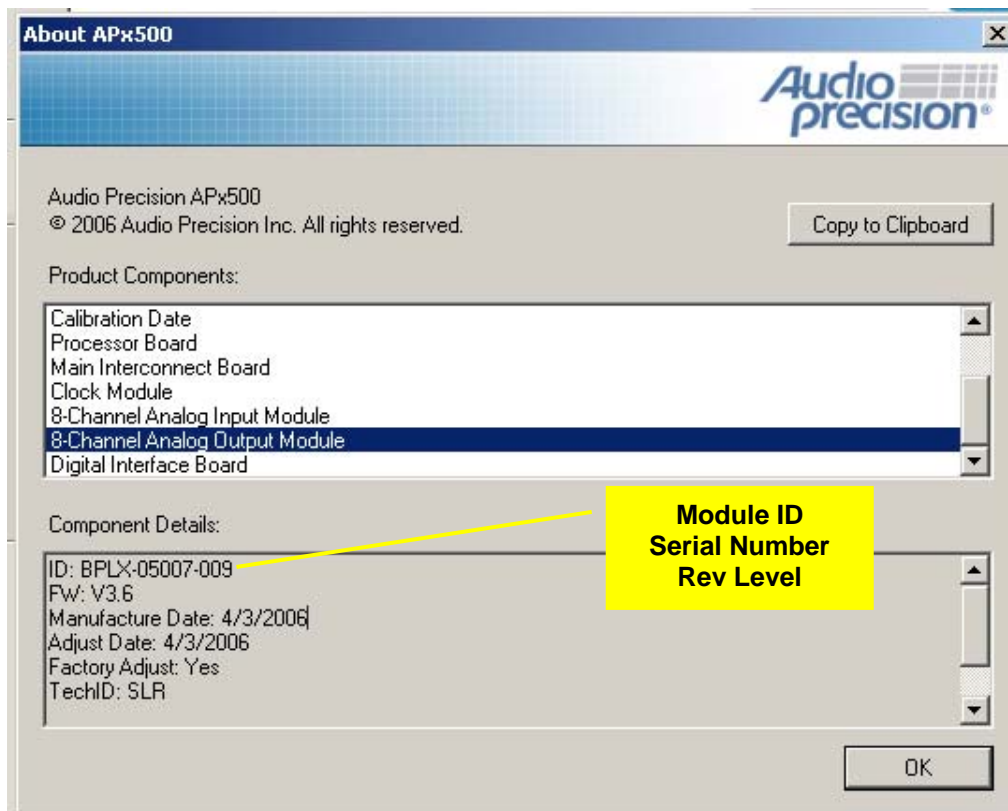

Figure 1
4. On the “About APx500” Panel (see Figure 1) select the “8-Channel Analog Output Module”.